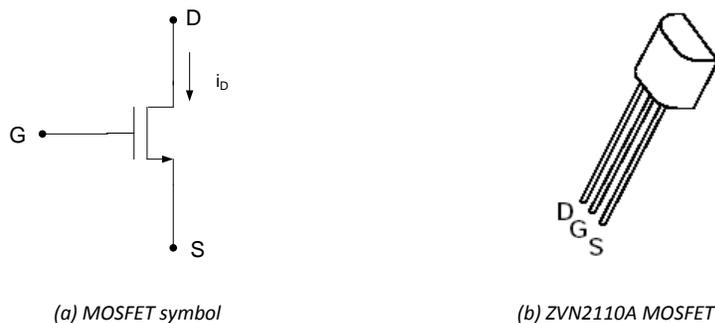

Figure 1. MOSFET symbol and typical physical appearance.
The primary circuit element used in this assignment is a Metal Oxide Semiconductor Field Effect Transistor (MOSFET). There are two basic types of MOSFETs: *n-channel* and *p-channel*; the discussion presented here is for n-channel MOSFETs, though similar concepts apply to p-channel MOSFETs. A MOSFET is a three-terminal device; the symbol commonly used to represent a MOSFET in circuit diagrams is shown in Figure 1(a). The three terminals of
the device are called the source (S), the drain (D) and the gate (G). Our circuit will employ a ZVN2210A MOSFET; the physical appearance of this MOSFET is shown in Figure 1(b), along with the relative locations of the drain, gate and source for that model MOSFET.
An extremely simplified discussion of a MOSFET's operation is as follows: A "channel" is opened in the MOSFET by application of a voltage at the gate of the MOSFET. This channel allows current to flow from the drain to the source of the MOSFET (i_D in Figure 1(a)). Thus, if a power supply is connected to the drain of the MOSFET, the MOSFET can be used to control the power supply's current: increasing the gate voltage increases the current out of the power supply. A rough analogy to this process is a valve placed at the base of a water tank – opening the valve allows water to flow out of the tank. Likewise, increasing the gate voltage allows current to "flow" out of the power supply. A MOSFET, therefore, in conjunction with a power supply, can act as a voltage controlled current source in which the drain current is controlled by the gate voltage.